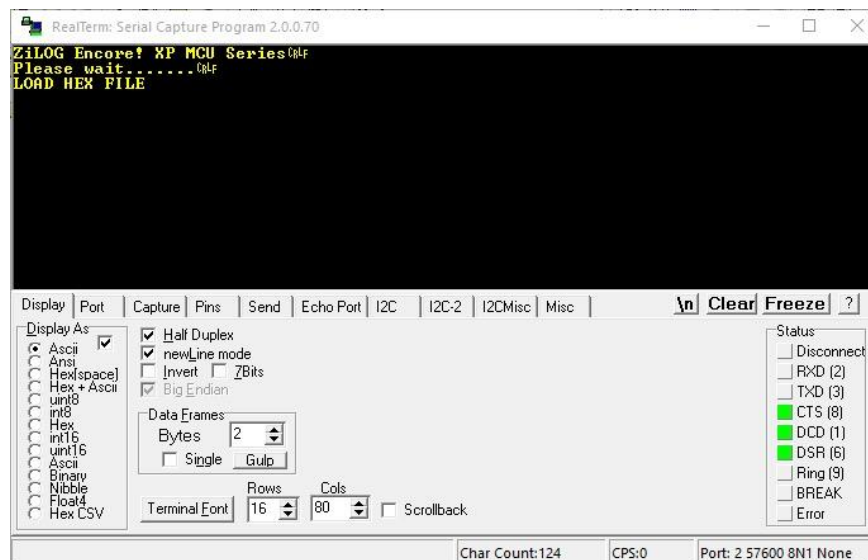

Figure 13. Boot Loader Initialization in RealTerm
4. Release the reset button for the MCU, then release the space bar on the keyboard. RealTerm should display a screen similar to the example shown in Figure 13.